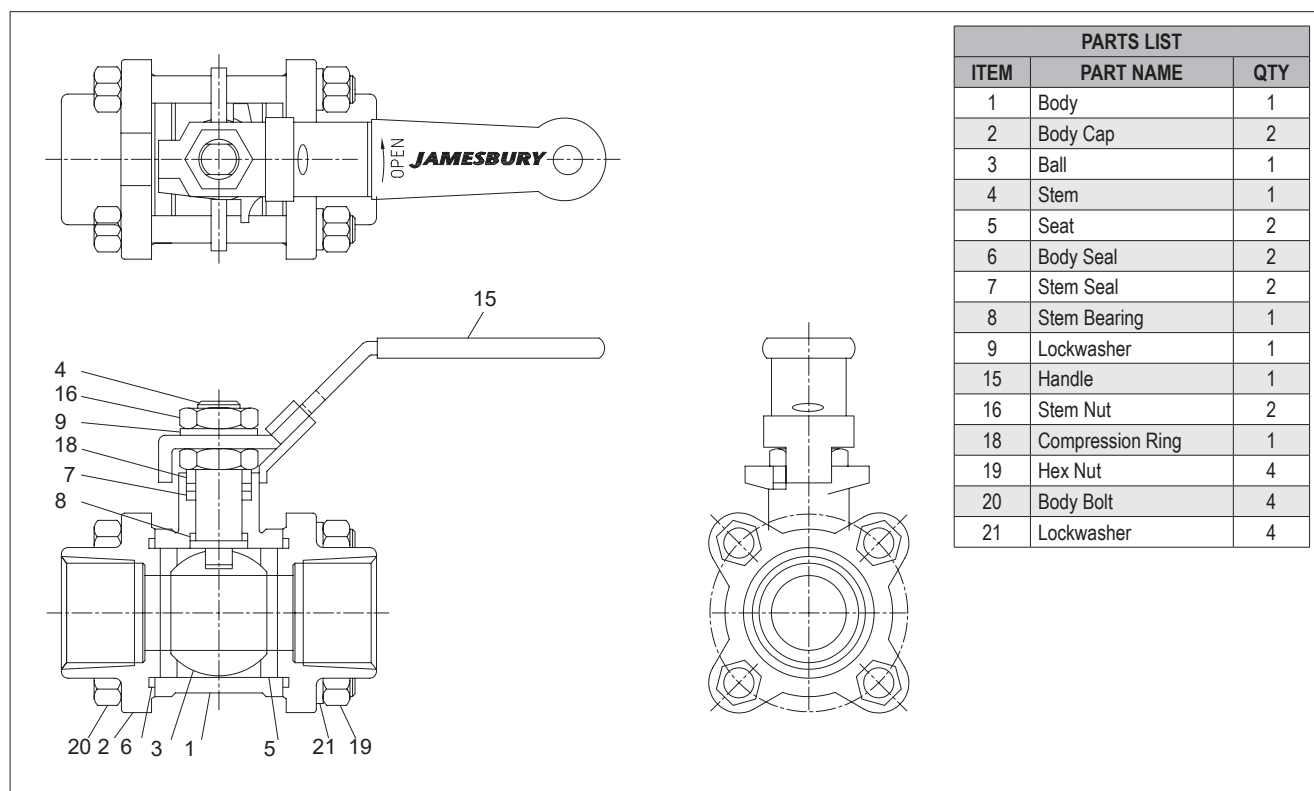

Figure 6.
- From **Figure 6**, the ballooned part number, part name and quantity required.